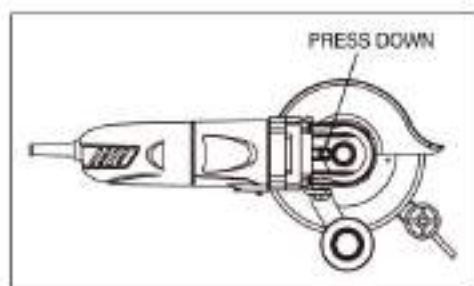

Fig.5
9. Press down the spindle lock (see Fig.5)